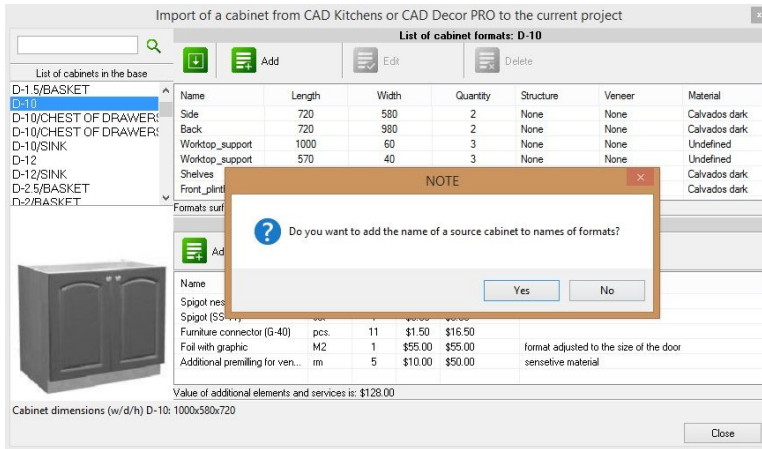

Fig. 117 – importing a cabinet to CAD Cut
- the next step is to click the  button and deciding, whether the source cabinet code is to be added to the names of the formats (Fig. 117);